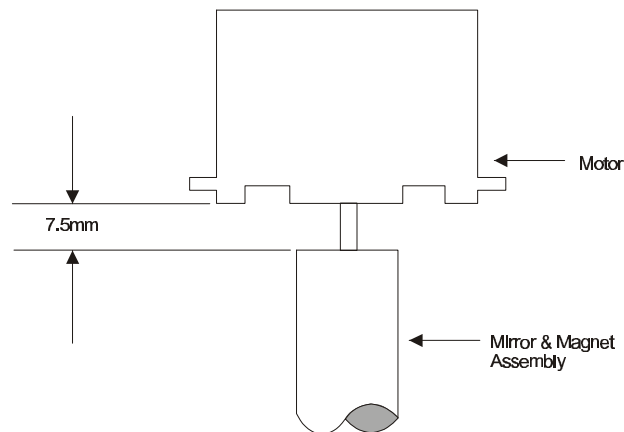

Figure 6-3 Mirror & Magnet Assembly
5. Install the new mirror & magnet assembly, positioning it on the shaft so that its end is located approximately 7.5 mm from the face of the boss on the motor end plate. Refer to Figure 6-3.